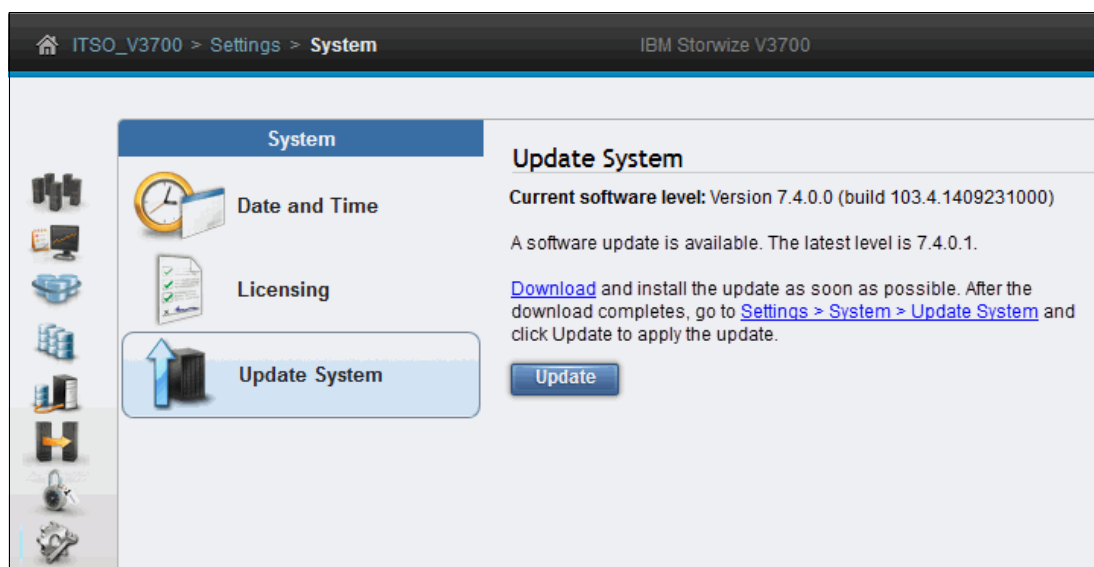

Figure 3-111 Update System pane
5. Finally, to update the software of the IBM Storwize V3700, click **Update**, as shown in Figure 3-111.